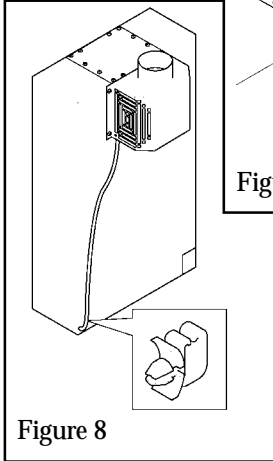

Figure 8
4. Fit a "P" clip at the bottom rear right corner of the appliance case. Fit the flue switch lead to the clip (See figure 8). Feed the lead into the case through the hole at the bottom corner.